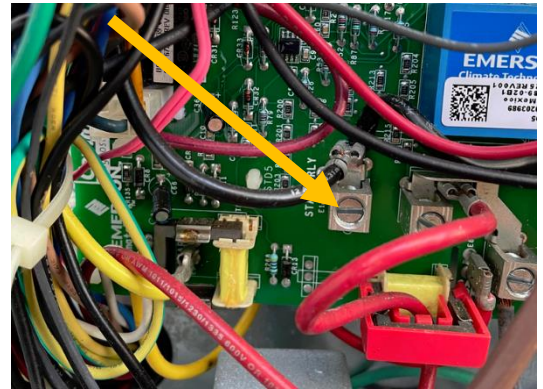

Figure 4
Step 6: Connect the orange wire to the terminal on the run capacitor indicated by the orange arrow in figure 4.